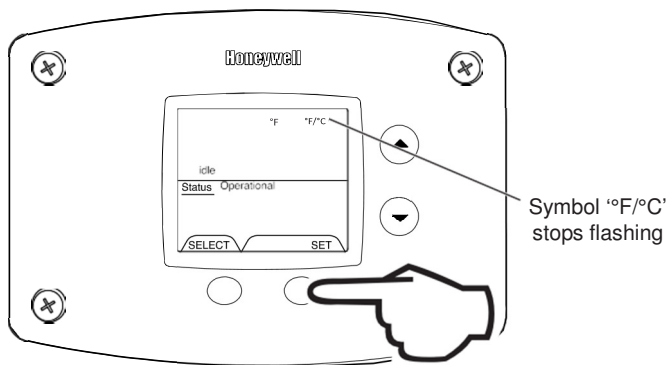

Figure 23
4. Press 'SET' button to confirm °F or °C format. F°/ °C will stop flashing. Setpoint display will appear in the format selected (°F or °C) in 10 seconds (Fig. 23).